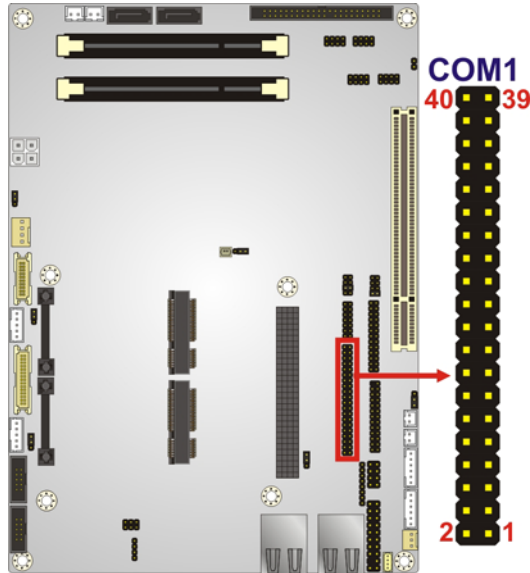

Figure 3-26: COM Connector Locations
- CN Location:** See **Figure 3-26**